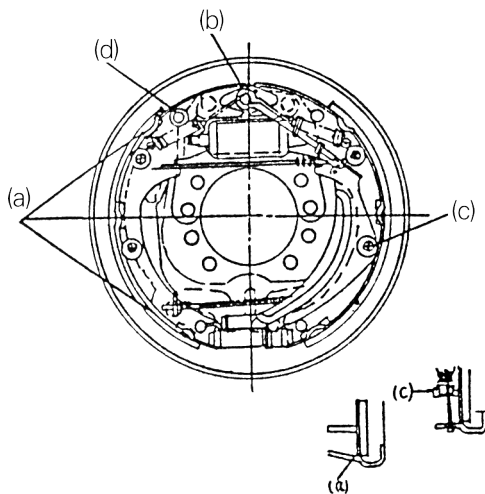
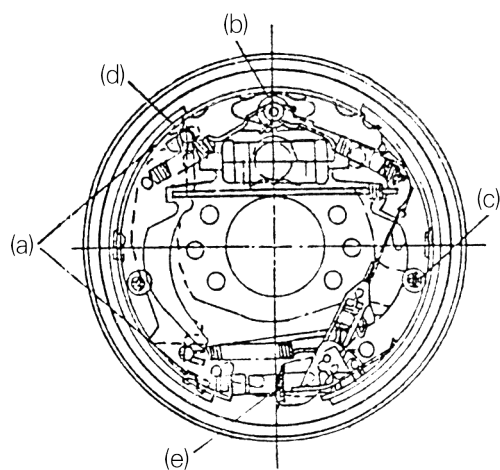

Fig.8-21 Lub. points in brake for 2ton trucks
Fig.8-22 Lub. points in brake for 3ton and 3.5ton trucks
(4) Apply No.2 calcium-base grease on the a, b, c, d and e points indicated in Fig.8-21 and Fig.8-22, with care not to contaminate the friction piece with grease.